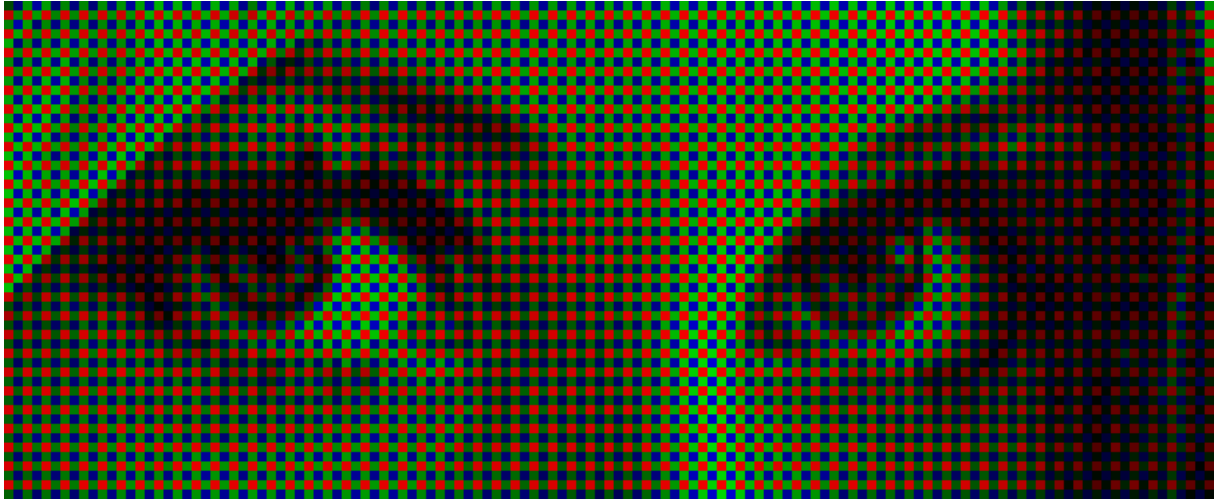
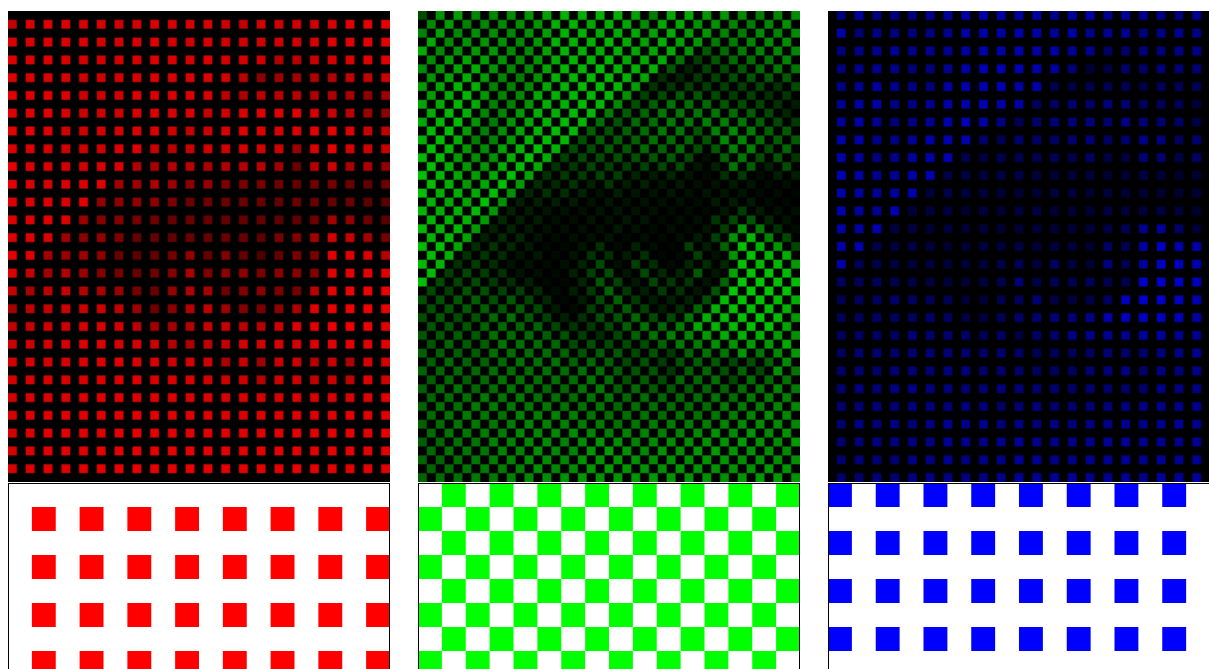

Figure 1: Raw data from Bayer CFA visualized without interpolation
Figure 2: Separated colors with the corresponding CFA
5. Pick the pixel values to the R, G and B layer matrices from the read data. The original data in `rawImage` are grayscale values, some representing red, some green and some blue pixels, organized in the order visualized in Figures 1 and 4. Final R, G and B matrices should contain a grid of known intensity values picked from `rawImage` and missing values in between containing zeros (Figure 2, note that R, G and B are shown here in color but they are actually grayscale). *Tip: initiate R, G and B as matrices of zeros with correct dimensions (same as rawImage), then go through the entire raw image and pick the red pixels from rawImage to R, green pixels to G and blue pixels to B using either for-loops or clever indexing.*
To measure the three main colors, separated color filter arrays (CFA) are used with the sensor. On top of each cell (pixel), there will be a single color filter allowing either red, green or blue light to pass to the sensor. The most common CFA is the Bayer filter, where red, green and blue filters are in group of four cells with two green and single red and blue cells (see raw data at Figures 1 and 2). The green color is measured with two cells instead of one, as the human eye is more sensitive to the green color. The amount of cells in the sensor defines the amount of pixels in the output image. Thus in the raw data there is only one color value for each pixel. For example, in a 16 Mpix camera sensor the number of pixels can be 4928×3264 .